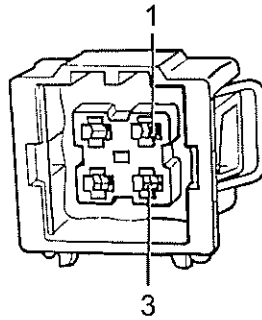

Fig 7 4-pin connector
11.17 Check wires between test box and 4-pin connector (see Fig 7) for breaks using vehicle wiring diagram :